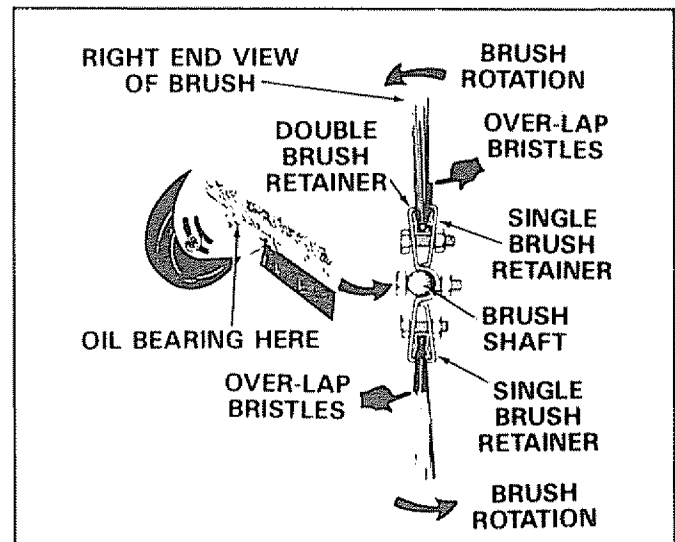

FIGURE 34
4. Loosen hex bolts and hex lock nuts from single brush retainers. See figure 34. **Slide brush out of retainers making note of over-lap bristles position.**
5. Install new brush, **making sure over-lap bristles are positioned the same as before and as shown in figure 34 (end view of brush).**